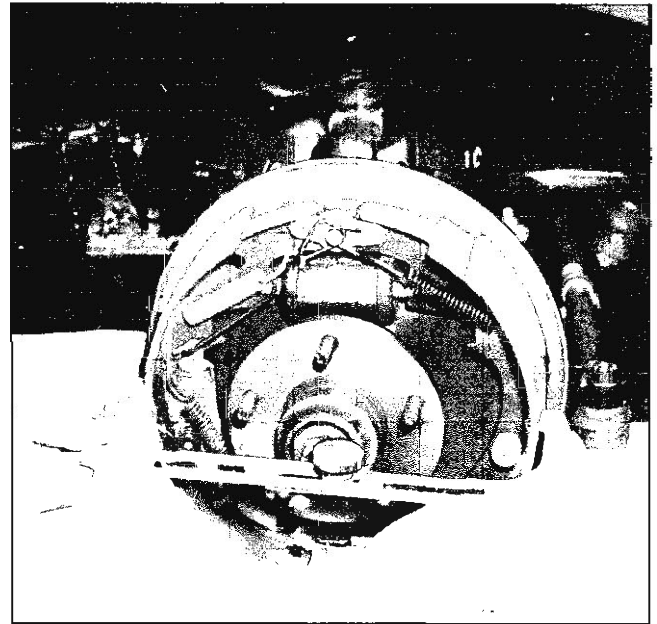

Fig. 13—Checking Brake Shoe Lining Clearance
- b. Turn the tool to the opposite side and fit over the brake shoes by turning the star wheel until the gauge just slides over the linings (fig. 13).